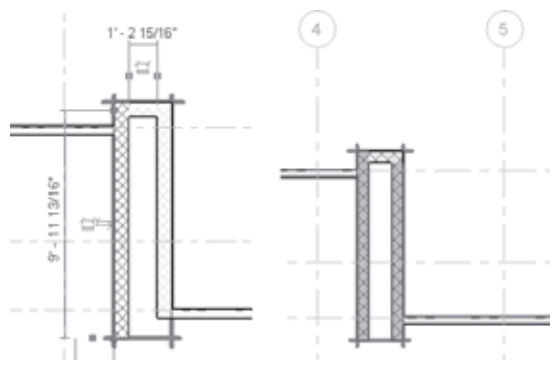

Figure 4.30
3. Select the far-left shortest segment of the fireplace wall and extend it by dragging the blue end grip control (Figure 4.30).
4. Continue by selecting each wall individually and dragging the end controls until they snap to the guideline intersections (Figure 4.30).